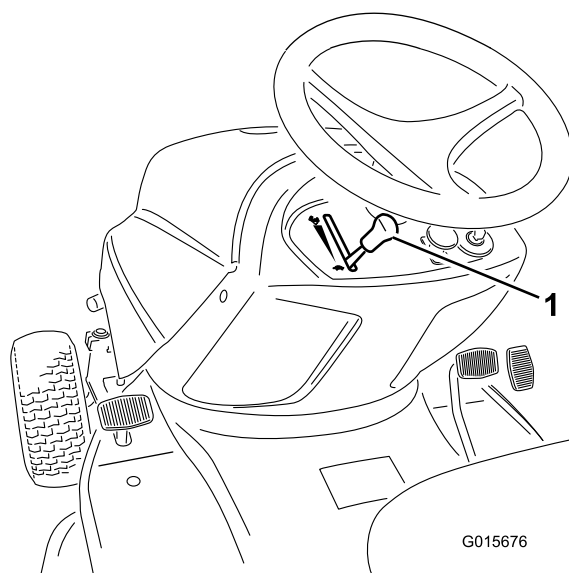

Figure 11
5. When starting a cold engine, shift the throttle control lever to the Choke (all the way up) position (Figure 11).
6. Shift the throttle control lever to the Slow (turtle) position (Figure 11).
1. Move the throttle control lever to the Slow (turtle) position (Figure 11).